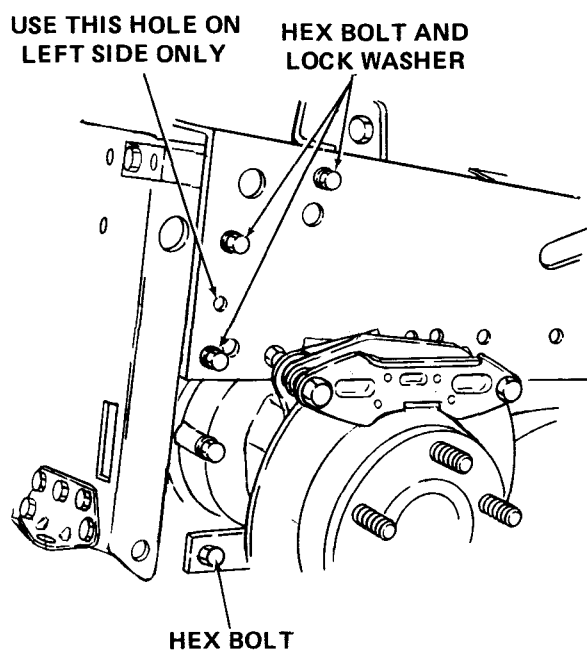

Figure B-13
3. Install 3-point hitch plate (1) as follows. Refer to Figure B-13.
- b. Position 3-point hitch plate between tractor frame and secure to right side of frame with three hex bolts (L) and lock washers (B).
- c. Secure 3-point hitch plate assembly to right mounting strap with hex cap screw (H) and hex center lock nut (J).